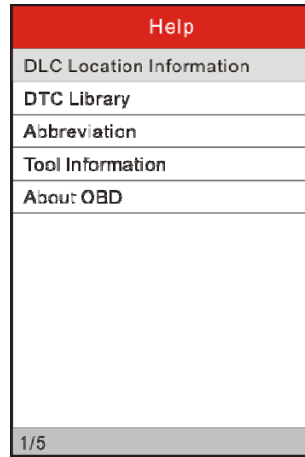

Figure 7-4
6. Highlight the "Tool Information" in figure 7-4 and press [OK].